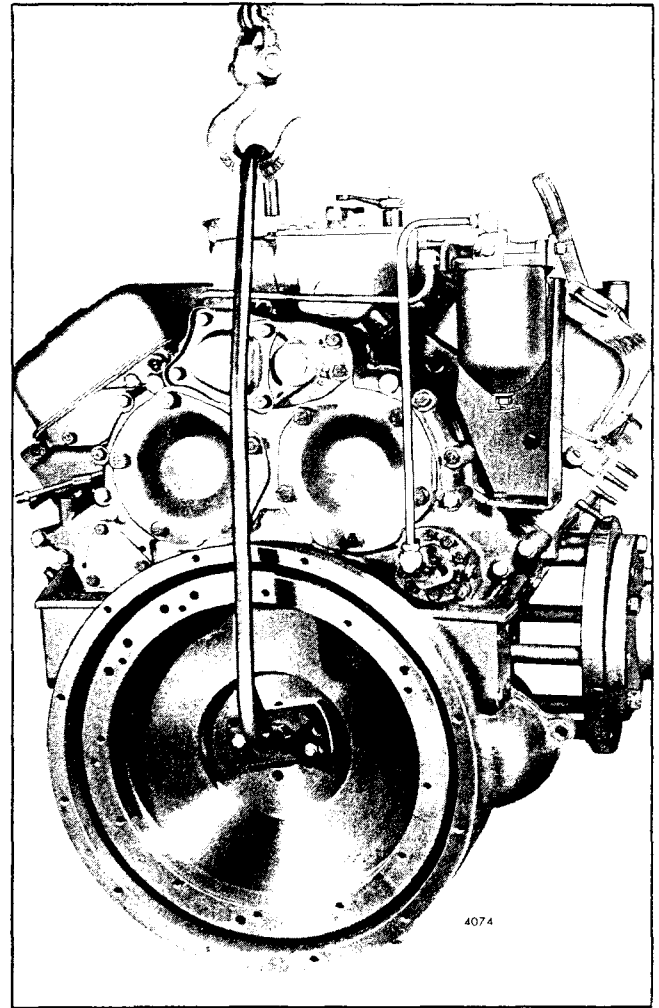

Fig. 1 - Removing Flywheel with Tool J 6361-01
- b. Attach flywheel lifting tool J 6361-01 to the flywheel with two 3/8" -16 bolts of suitable length as shown in Fig. 1.